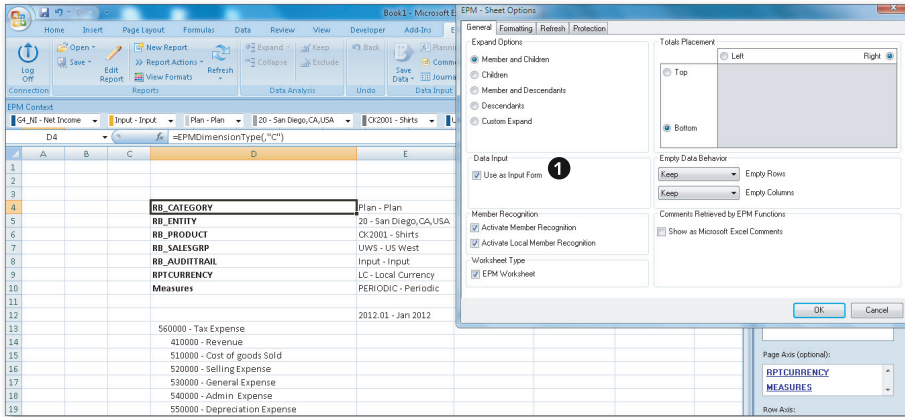

Figure 5.40 Creating an Input Form—Part C
3. In the EPM – SHEET OPTIONS dialog box, select USE AS INPUT FORM under DATA INPUT (Figure 5.40, ❶). This will allow the user to enter, modify, and save the data.